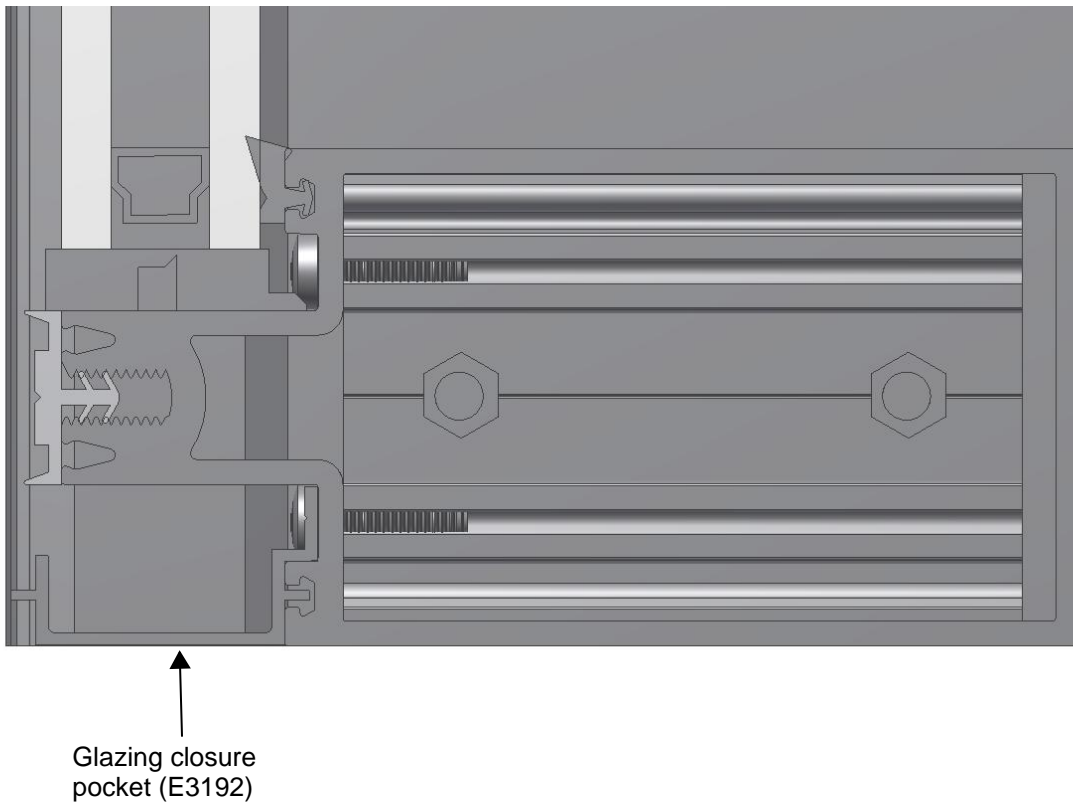

Figure 25: Install the vertical snap-on cover and pressure plate.
- At the perimeter, install a glazing pocket closure adjacent to the structure as shown in Figure 25.